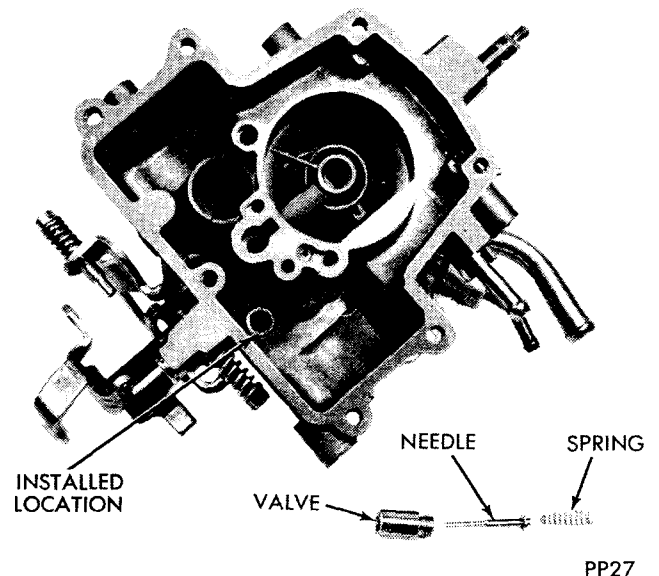

Fig. 17—Removing or Installing Power Valve
(15) Carefully depress the power valve needle with a 3/8 inch wide screwdriver until screwdriver blade is squarely seated in slot on top of the valve. Remove valve. The power valve assembly consists of seat needle and spring. All of these components of the service power valve should be used if replacement is required. (Fig. 17).